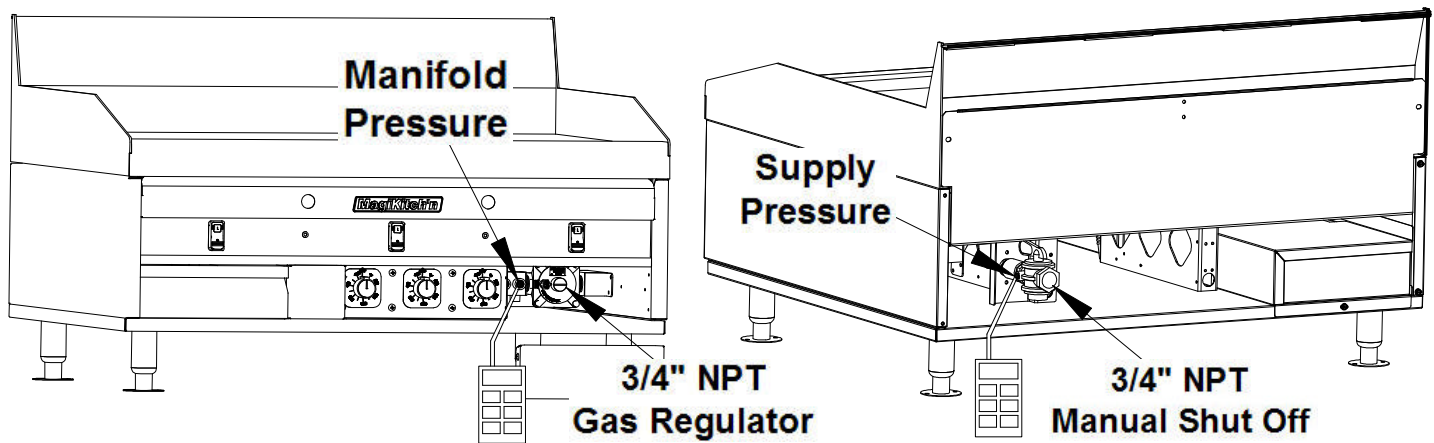

Figure 6
1. The gas input regulator for your new appliance has been installed at the factory, See Figure 6 for the location of the regulator and the manual shut off valve equipped on your appliance. Using a regulator other than the one supplied with the unit will void the warranty.
2. The manifold pressure must be maintained at the pressure marked on the Data plate. The manifold pressure reading is taken at the 1/8" NPT coupling located behind the lower front panel next to the gas regulator, see Figure 6. To check the supply pressure to the appliance use the pressure test point supplied on the manual shut off valve, also see Figure 6.
Orifices are sized to provide proper gas flow to the rated BTU/hr for each model. Regulator pressure must be measured and adjusted before the unit goes into service, following installation and when operational performance is in question. The manifold and supply pressure readings are taken at the pressure test points provided, see Figure 6.
2. Turn the Manual gas shut off valve to the **"ON"** position, this valve is located at the rear of the unit, see Figure 6. To open the valve to allow gas flow the handle should be in line with the manual shut off valve.